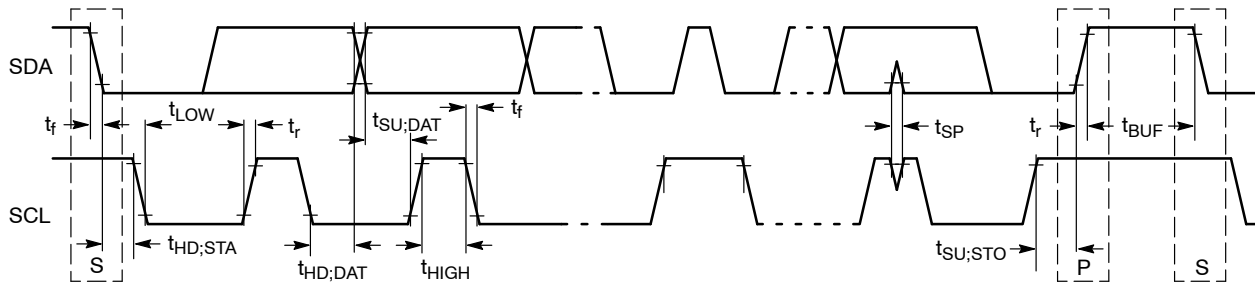

Figure 3. AC Characteristics
3. Refer to Figure 3 for more information on AC characteristics